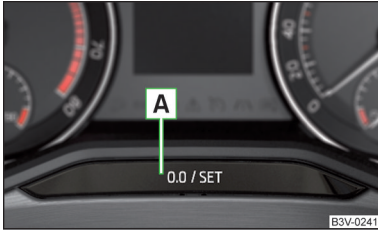

Fig. 27
- › Press and hold the button **A** » Fig. 27 until the **Service** is shown in the display.